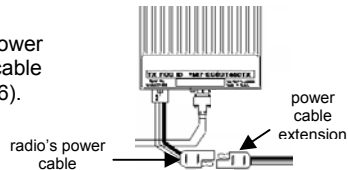

Figure 6
Step 1 Connect the radio power cable to the power cable extension (see Fig. 6).